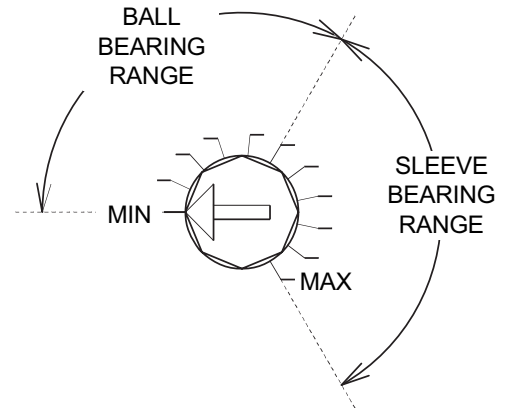

FIGURE 5 - HARD START CALIBRATION
11. Adjust the "HARD START" knob to the maximum. This allows full voltage to be applied to the motor for a longer period during start-up. See Figure 5.